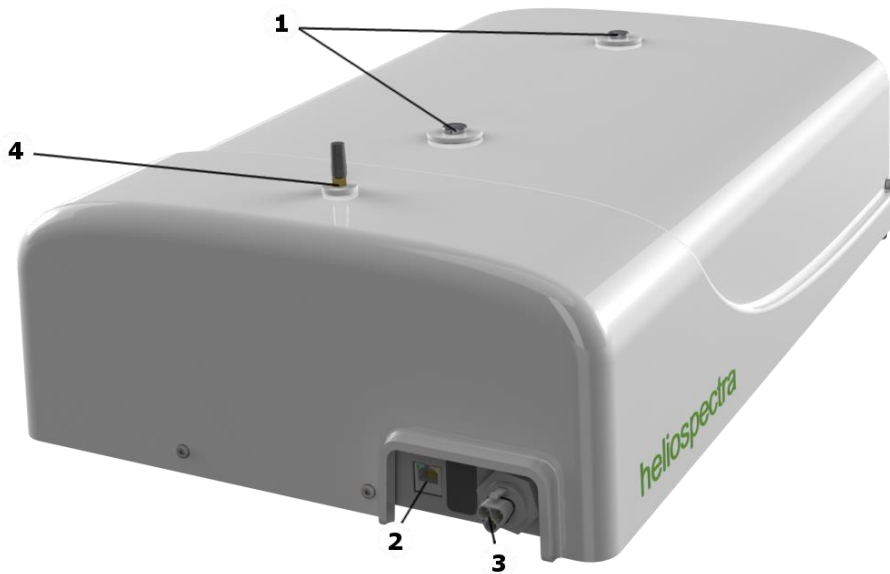
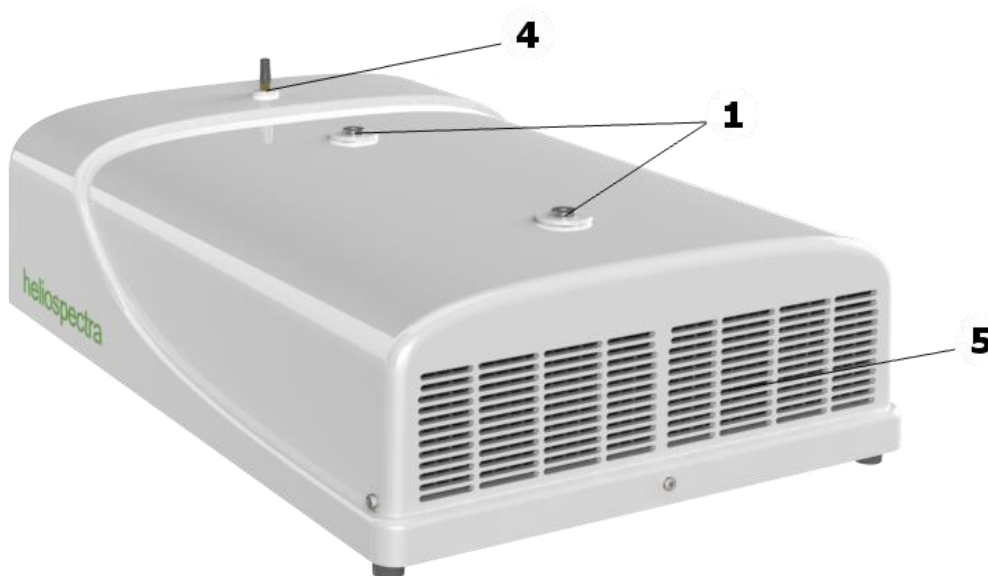
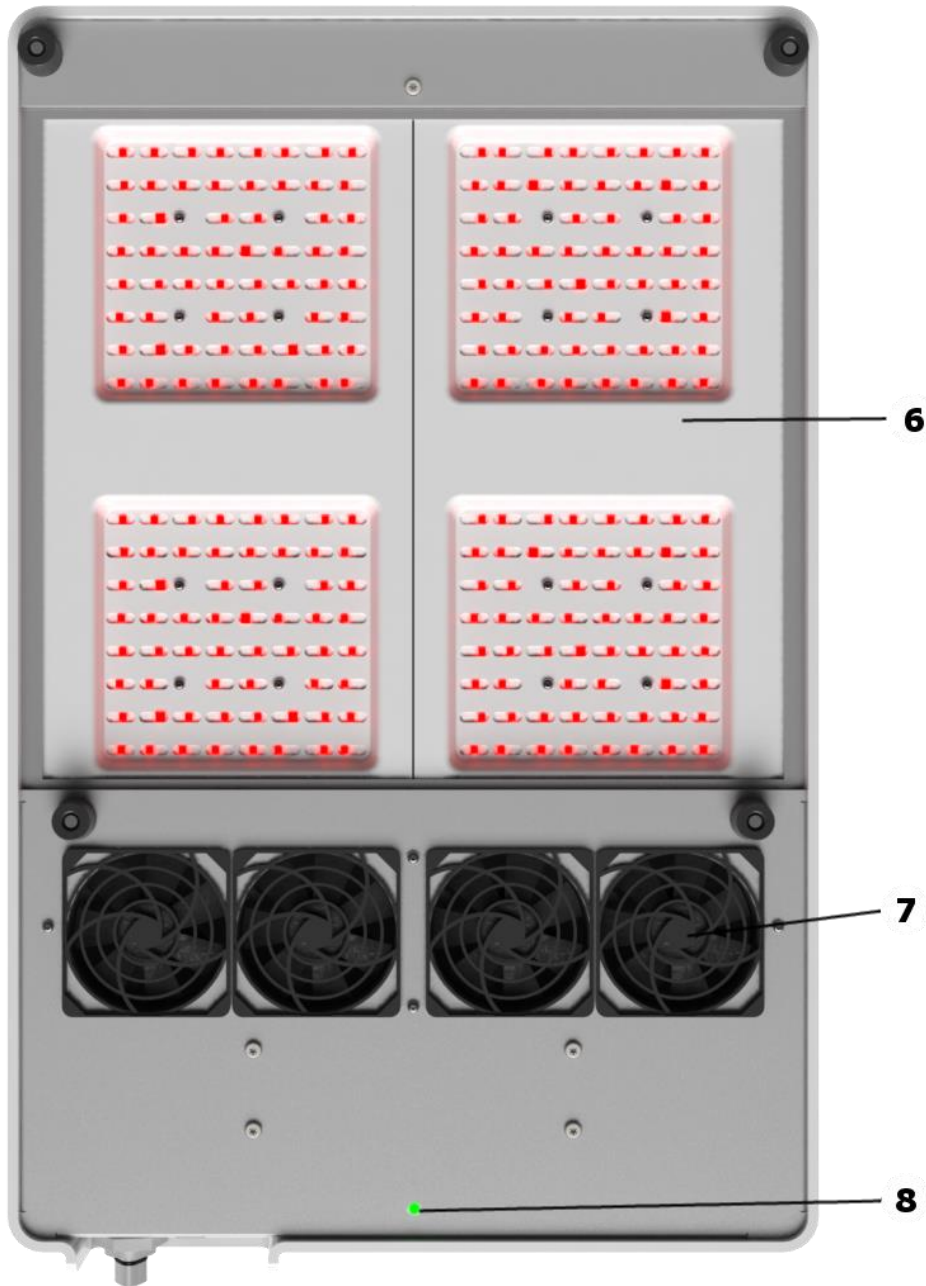

Figure 2 L4A Series 10 Main Connectors
Figure 3 L4A Series 10 Fan Outlet
Figure 4 L4A Series 10 Indicator LED and Plates, Fans and Air Intake
Figure 2 L4A Series 10 Main Connectors, Figure 3 L4A Series 10 Fan Outlet, and Figure 4 L4A Series 10 Indicator LED and Plates, Fans and Air Intake provides an overview of the L4A Series 10 lamp unit.
1. Fasten the two eye bolts into the mounting screw holes ①; see *Figure 2 L4A Series 10 Main Connectors*. Use the supplied M6 washers and nuts to tighten the eye bolt screws. Verify that the eye bolt screws go approximately 10 mm into the mounting holes. Do not use excessive force when tightening the screws.
5. Connect the supplied Ethernet cable to the Ethernet port ②.
7. To power up the lamp, connect the supplied power cord to the power socket ③, and then connect the cord to a grounded 120V/230V, 50/60Hz power outlet. The lamp will beep twice and the indicator LED ⑧ (see *Figure 4 L4A Series 10 Indicator LED and Plates, Fans and Air Intake*) will flash orange for approximately 15 seconds and then flash green. The lamp unit is now ready for use.